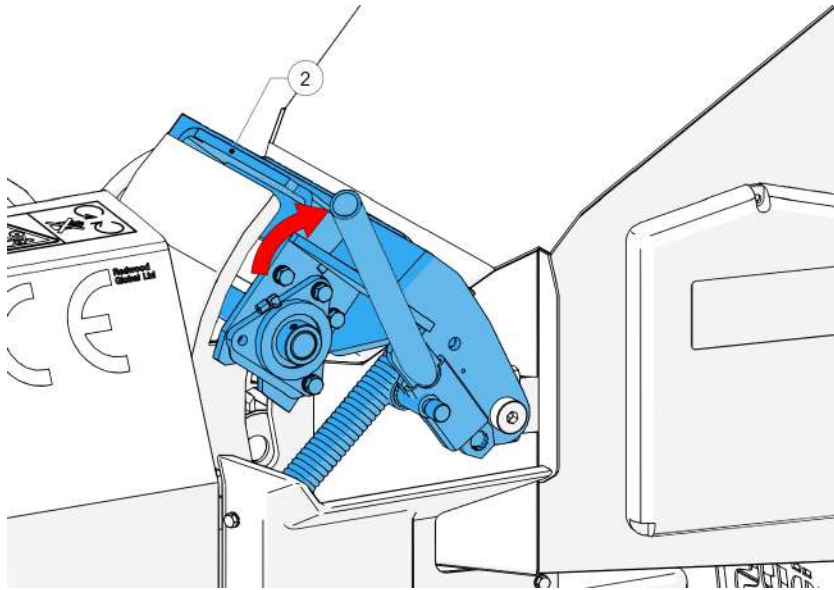

Figure 46 - Raising the top feed roller housing
12. 2x people are needed for this step. One person lifts the top feed roller (2, Figure 46) to the fully open position while the other person, wearing protective gloves and using a piece of wood, carefully clears the blockage from inside the feed chamber.